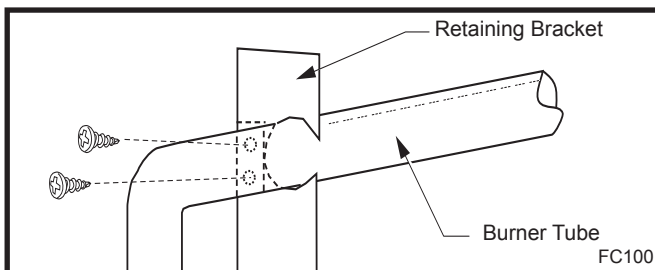

Fig. 48 Bend retaining bracket away from tube.
1. Bend retaining bracket away from burner tube. (Fig. 48)